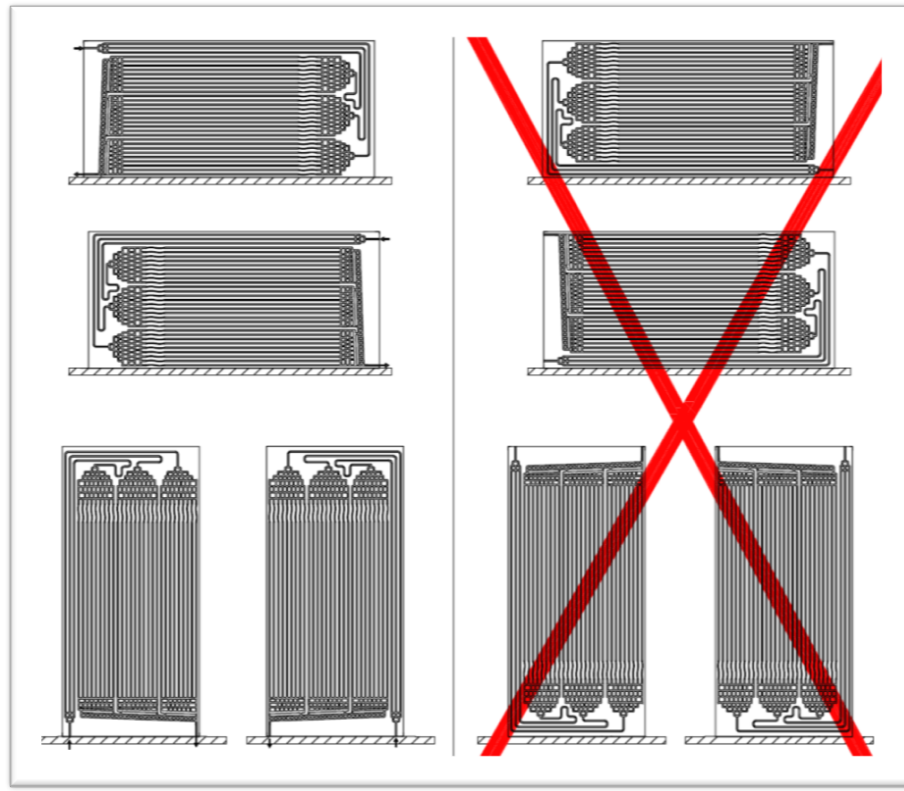

Fig 4 Correct and incorrect placing of the panel
- Fix the evaporator panel in a vertical (portrait) position (horizontal position it is also valid) with the inlet pipes situated on the lower part as per the figure 4.